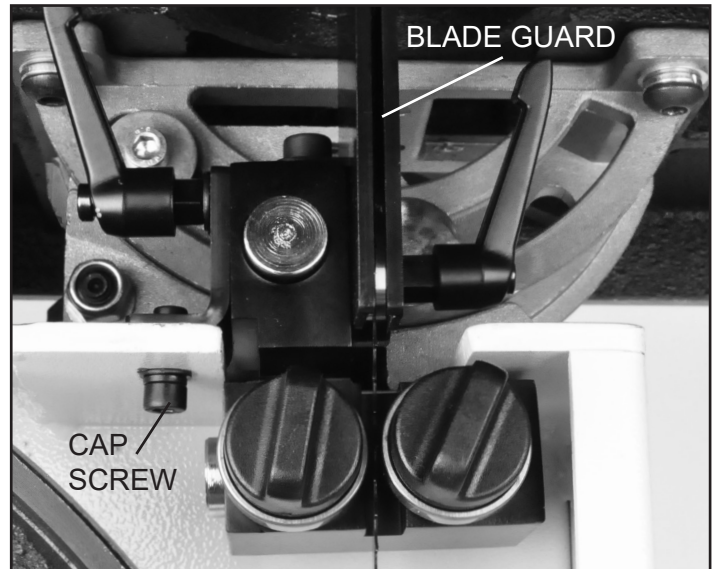

FIGURE 5
8. Once the lower Guide Assembly is positioned on the frame, insert the Cap Screw, with Washers removed in step 6, up through the hole in the saw frame and back into its threaded hole in the connecting plate. Do not fully tighten the screw at this time. Figure 5, Page 6.